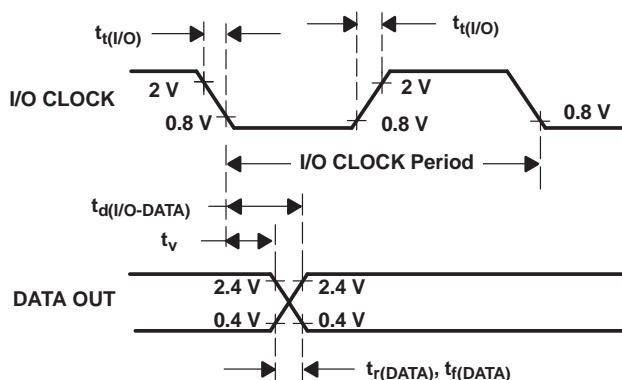

Figure 6. I/O CLOCK and DATA OUT Voltage Waveforms
- (3) Zero-scale error is the difference between 0000000000 and the converted output for zero input voltage; full-scale error is the difference between 1111111111 and the converted output for full-scale input voltage.
- (4) Analog input voltages greater than that applied to REF+ convert as all ones (1111111111), while input voltages less than that applied to REF- convert as all zeros (0000000000). The device is functional with reference voltages down to 1 V ($V_{ref+}-V_{ref-}$); however, the electrical specifications are no longer applicable.
- (5) Total unadjusted error comprises linearity, zero-scale, and full-scale errors.
- (6) Both the input address and the output codes are expressed in positive logic.
- (7) I/O CLOCK period = 1/(I/O CLOCK frequency) (see Figure 6)
- (8) Any transitions of \overline{CS} are recognized as valid only if the level is maintained for a setup time plus two falling edges of the internal clock (1.425 μs) after the transition.